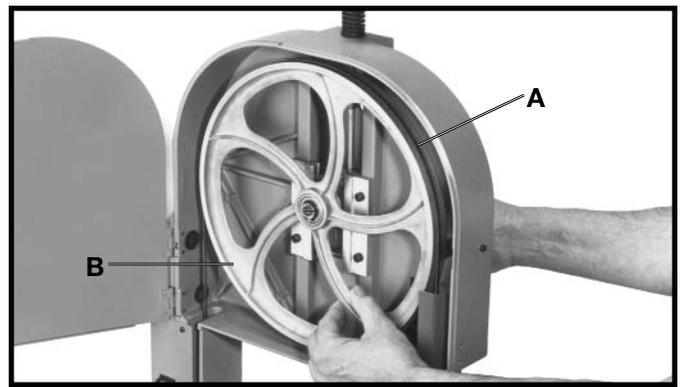

Fig. 18
For accurate work and maximum blade life, it is important that the blade (A) Fig. 18, be centered on the upper band saw wheel. When this adjustment is properly made, the blade will “track” – that is, it will run steady in the same line. To “track” the blade, proceed as follows:
2. Rotate the upper wheel (B) Fig. 18, slowly by hand to determine if the blade is riding on the center of the wheel.